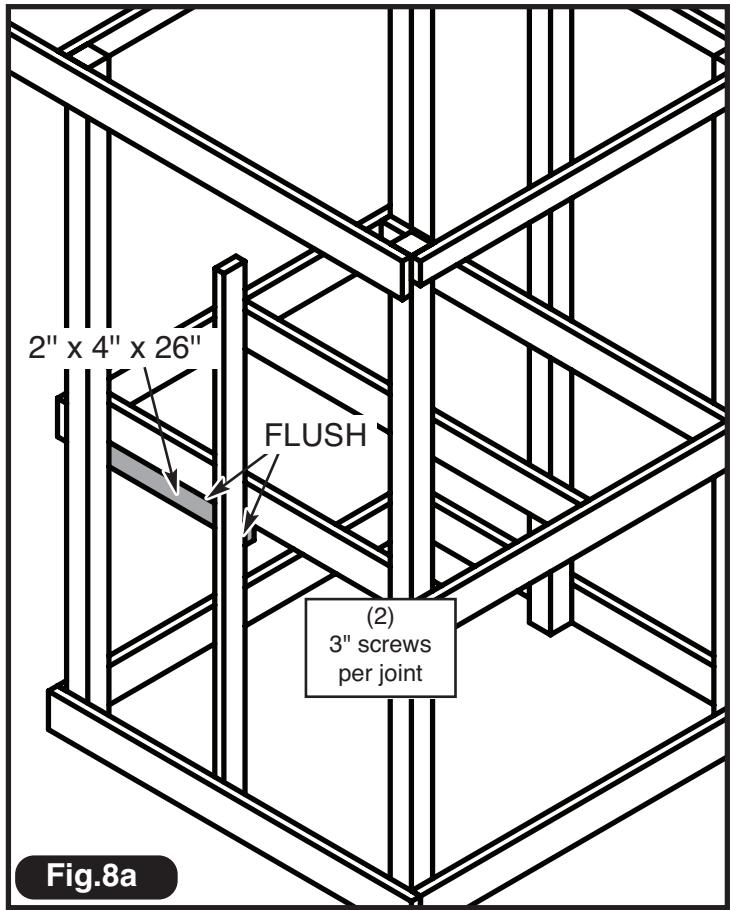

Fig. 8a
2. Install 2" x 4" x 26" Ladder Spacer Board as shown in (Fig. 8a).